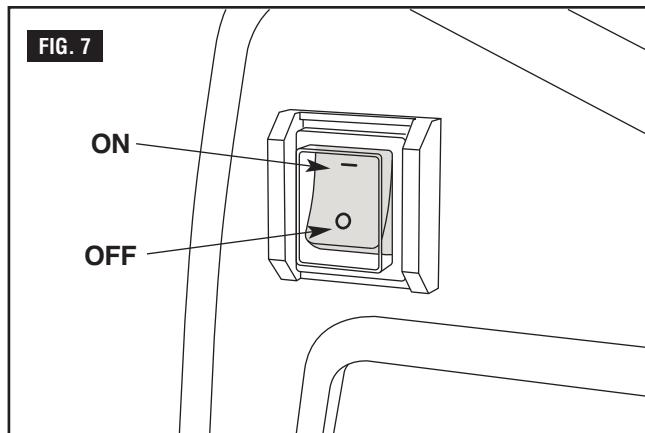

FIG. 8
2. Adjust the parallel rip fence to the desired distance from the tile blade, using the scale rules on the table surface for reference. Tighten the fence-locking knobs on each side to firmly lock the parallel rip fence on the table. (Fig. 8)
1. Adjust the parallel rip fence to the desired distance from the tile blade, using the scale rules on the table surface for reference. Tighten the fence-locking knobs on each side to firmly lock the parallel rip fence on the table. (Fig. 8)